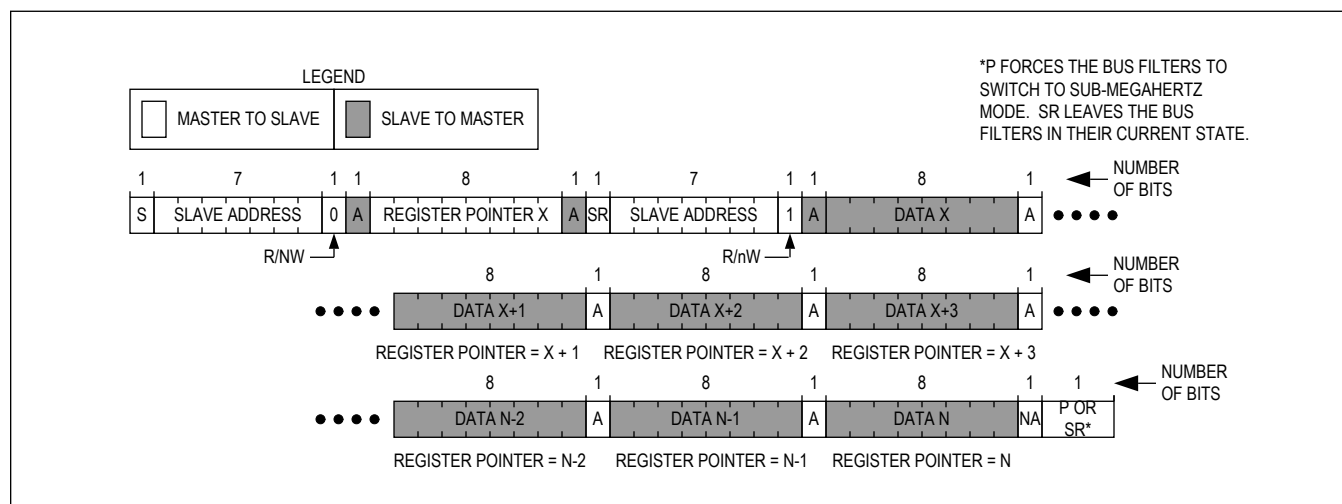

Figure 26. Reading Continuously from Sequential Registers X to N
Figure 26 shows the protocol for reading from sequential registers. This protocol is similar to the read byte protocol except the master issues an acknowledge to signal the slave that it wants more data. When the master has all the data it requires, it issues a not acknowledge (nA) and a stop (P) to end the transmission. The continuous read from sequential registers protocol is as follows:
1. The master sends a start command (S).
3. The addressed slave asserts an acknowledge (A) by pulling SDA low.
10. The master issues an acknowledge (A) signaling the slave that it wishes to receive more data.